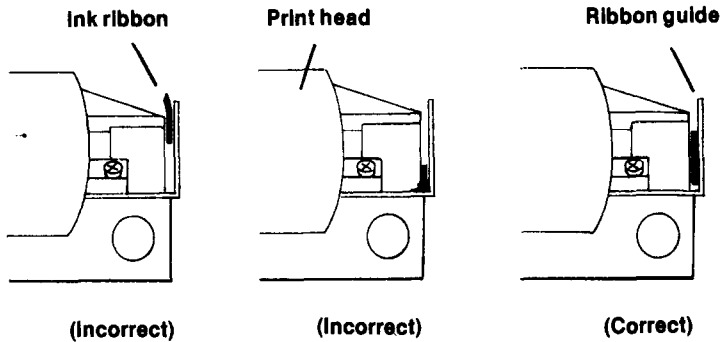

Figure 2-17. Two wrongs don't make a right, so try to be careful when setting the ribbon near the print head (shown here).
*Hint #4:* Then thread the ribbon, taking care around the print head. Figure 2-16 shows how to insert the ribbon in the slot between the print head and the ribbon guide. Figure 2-17 shows you how to position the ribbon to avoid misprints or to prevent the ribbon coming off during printing.